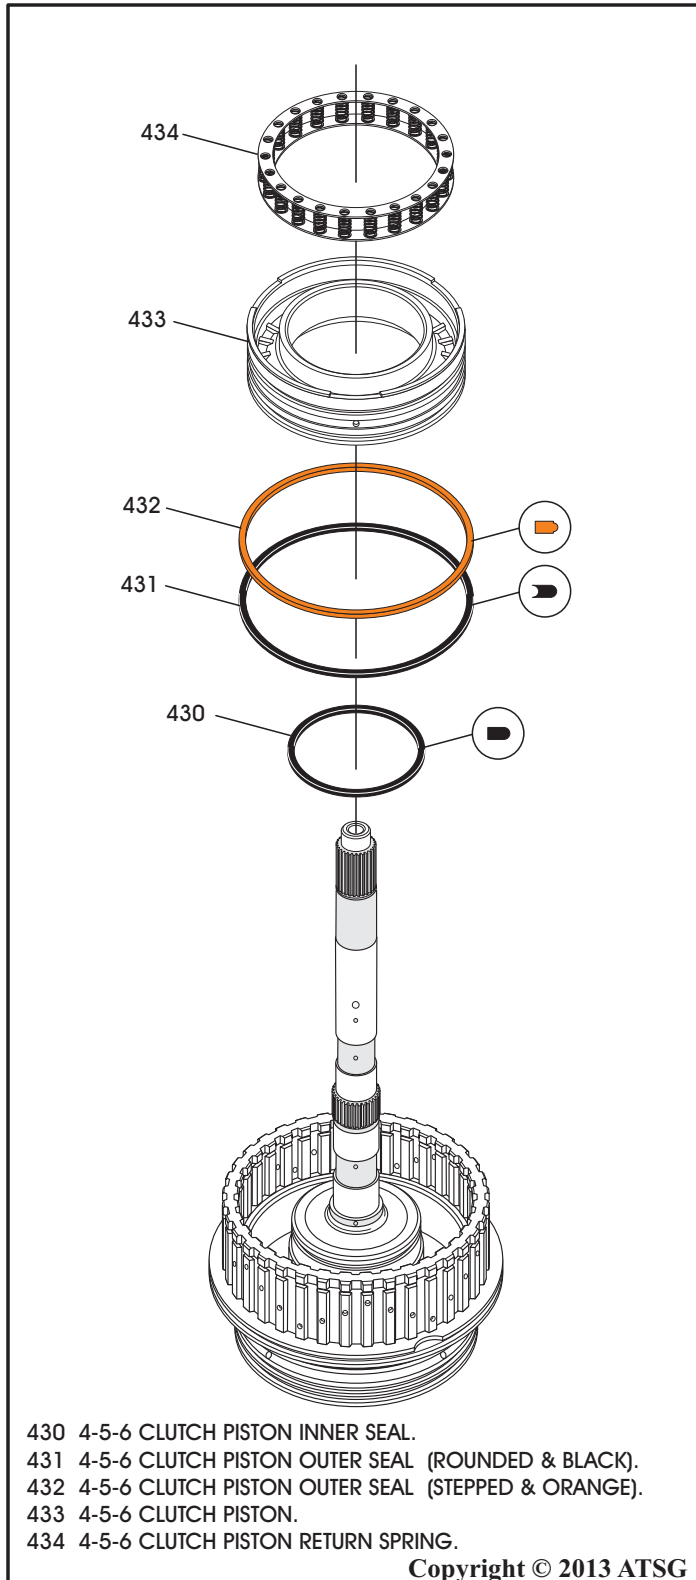

Figure 147
22. Remove the 4-5-6 clutch piston return spring, as shown in Figure 147.
23. Remove the 4-5-6 clutch piston, as shown in Figure 147.
24. Remove and discard the 4-5-6 clutch piston outer seal (Stepped & Orange), as shown in Figure 147.
25. Remove and discard the 4-5-6 clutch piston outer seal (Rounded & Black), as shown in Figure 147.
26. Remove and discard the 4-5-6 clutch piston inner seal from the housing, as shown in Figure 147.